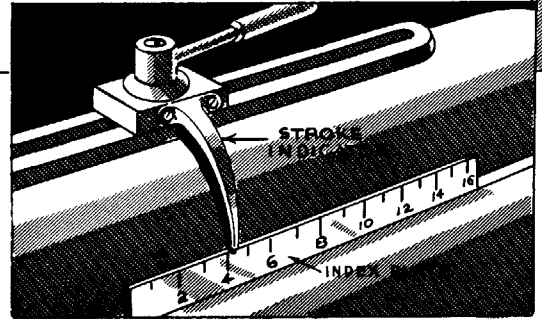

FIG. 13
To the list of parts and surfaces already covered must be added the parts which aid in placing the ram stroke over the surface to be planed (Fig. 13). These parts include: shaft (1) with a square end to receive a crank which is used when the ram is being placed; horizontal screw (2) which extends almost the entire length inside the ram and is supported in bearings at B; and bevel gears (3) which connect the shaft and the ram positioning screw (2).
Many shapers of older design use a stroke indicator which attaches to the clamping pad on the ram and extends down to a stationary index plate on the column (Fig. 13). This index plate resembles a scale in that it is marked off in inches. The largest number appearing on the index plate indicates the maximum length of stroke of the machine. For example, the number 16 indicates a 16-inch shaper.